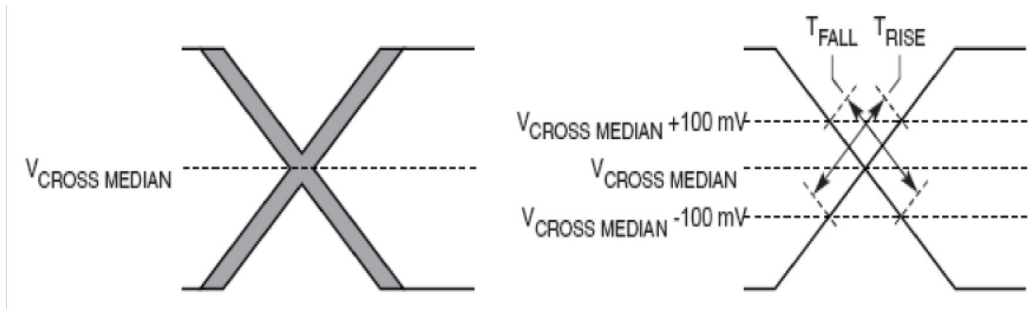

Figure 42. Single-ended measurement points for rise and fall time matching
- Matching applies to rising edge for SD_REF_CLKn and falling edge rate for $\overline{\text{SD_REF_CLKn}}$. It is measured using a 200 mV window centered on the median cross point where SD_REF_CLKn rising meets $\overline{\text{SD_REF_CLKn}}$ falling. The median cross point is used to calculate the voltage thresholds that the oscilloscope uses for the edge rate calculations. The rise edge rate of SD_REF_CLKn should be compared to the fall edge rate of $\overline{\text{SD_REF_CLKn}}$, the maximum allowed difference should not exceed 20% of the slowest edge rate. See Figure 42.